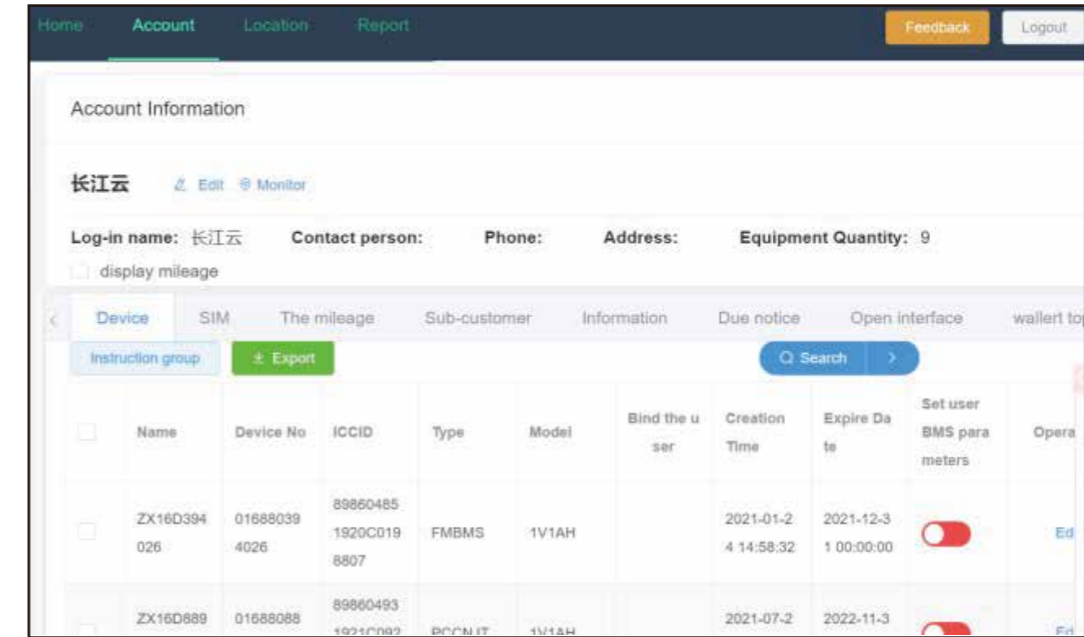
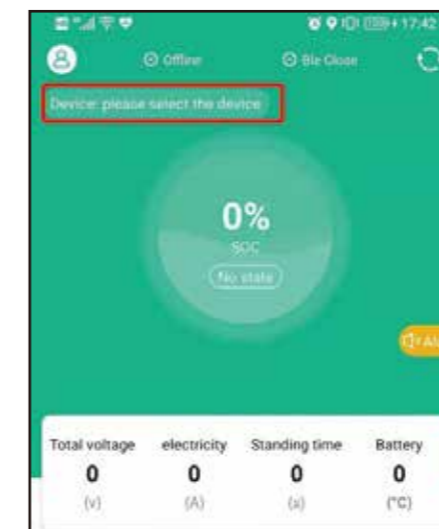
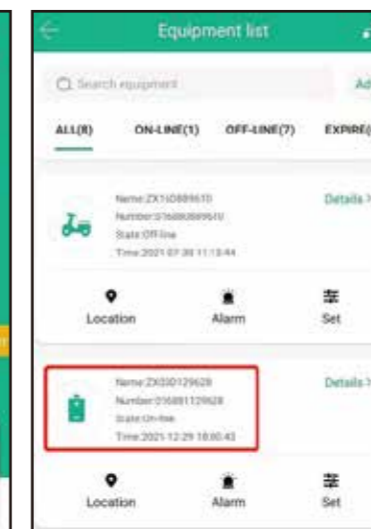
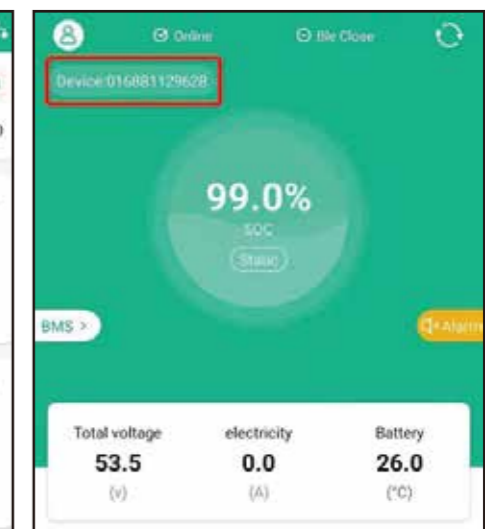

Figure 2
Figure 23
Figure 24
Figure 25
3.1.2 Figure 2 Click Account management menu to view device attributes or modify device attributes and other operations,such as viewing the device name, device creation time, device expiration time,SIM card CCID number,subordinate customer data management, device transfer,device balance recharge(this function is only applicable to leasing services) and a series of other operations.
3.2.2 Click on the APP in Figure 2, enter the page (Figure 23) and then click on the red frame to enter the device list and select the device you want to view,such as clicking on the device in the red frame (Figure 24),and then return to the home page to see the relevant part of the information (Figure 25).
3.2.4 If you have 2 or more users and have managed them separately (please refer to section 3.1.5 for user management),then you can enter the page in the above figure (Figure 24),click on the button in the upper right corner of the red frame (Figure 29) that will pop up the drop-down menu and display your users and devices,at this time if you want to view any one of the device information,you just need to select it and click to enter.